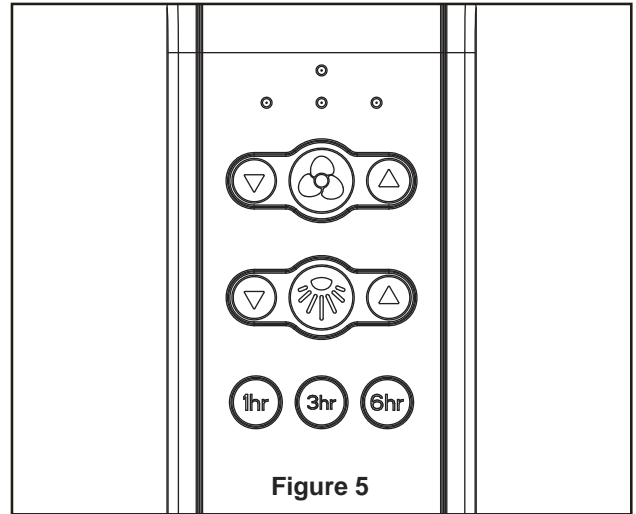

Figure 5
- 5.** Assemble the LED assembly to the light kit using the two key slots and replace the third screw and securely tighten all three screws. (Figure 5)
5. Remote functions: (Figure 5)